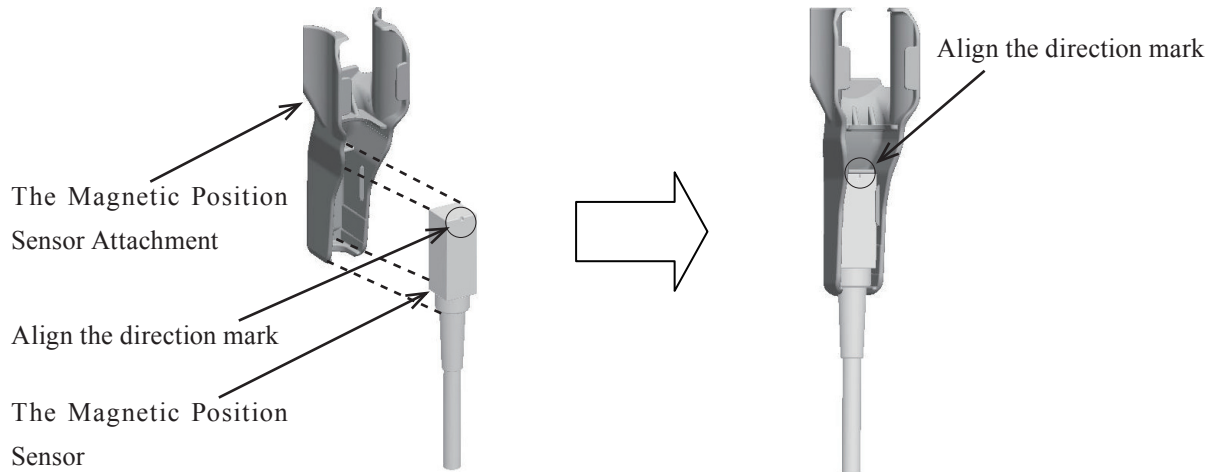

Figure 3 How to attach Magnetic Position Sensor
- (1) Align the direction mark of the Magnetic Position Sensor and the hole of the Magnetic Position Sensor Attachment, and place the sensor into the attachment (Figure 3).